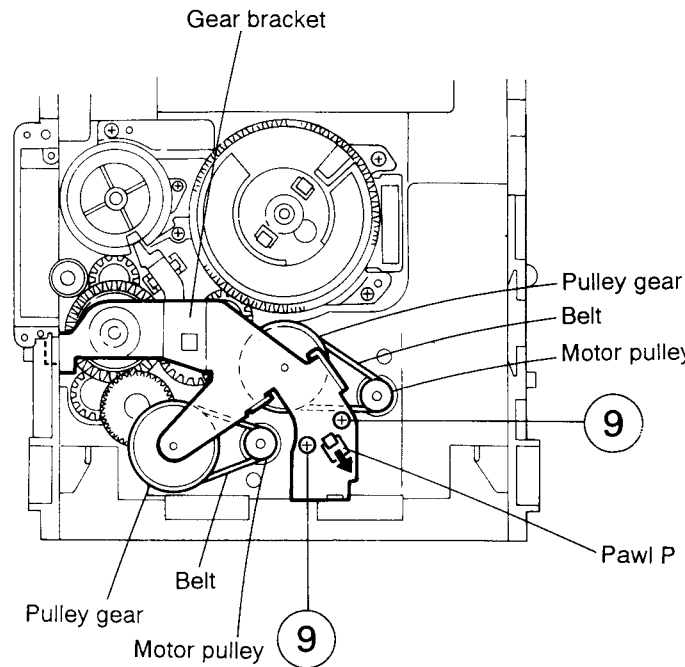

Fig. 5-33
(See Figs. 5-33~5-36).
1. Remove the two screws (9) retaining the gear bracket (See Fig. 5-33).
2. While pressing the pawl (P) fixing the gear bracket in the arrow direction, remove the gear bracket (See Fig. 5-33).
6. Mount the FR arm assembly. In this case, the FR arm assembly should be set carefully by aligning it to the two positions in Fig. 5-33. Then, confirm that the FR arm is returned to the initial position when it is moved in the arrow direction.